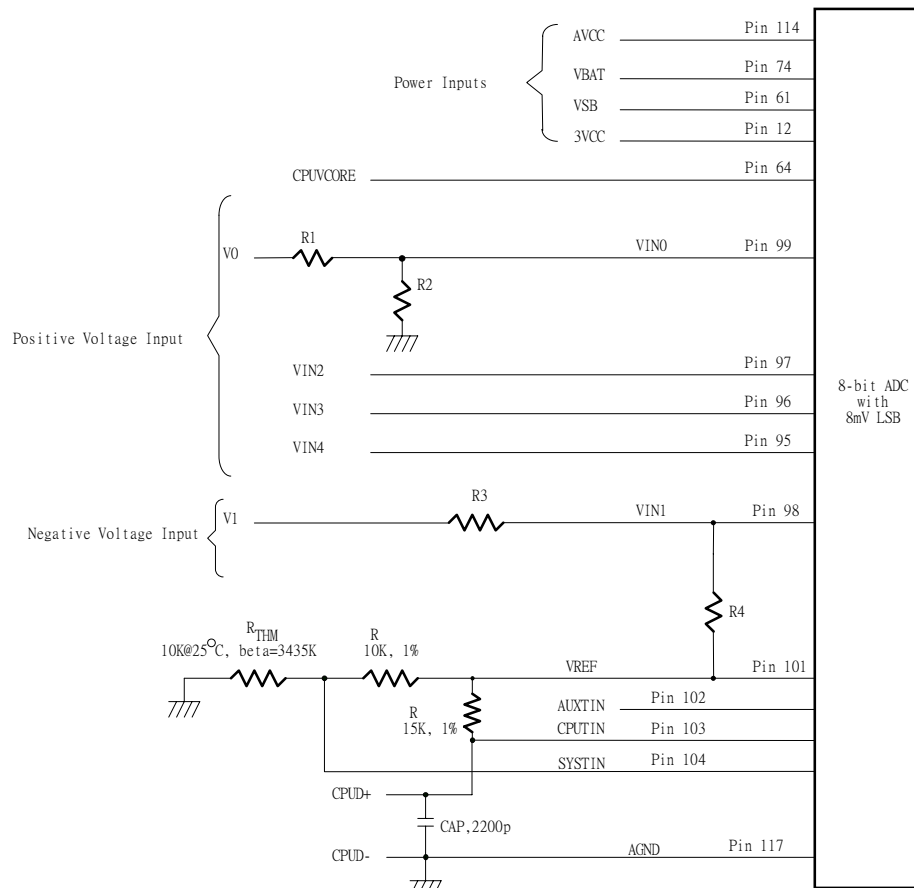

Figure 6.2
The maximum input voltage of the analog pin is 2.048V because the 8-bit ADC has a 8mV LSB. Really, the application of the PC monitoring would most often be connected to power suppliers. The CPU Vcore voltage, battery (pin 74), 3VSB (pin 61), 3VCC (pin 12), AVCC (pin 114) voltage can directly connected to these analog inputs. The +12V voltage inputs should be reduced a factor with external resistors so as to obtain the input range. As Figure 6.2 shows.
The W83627EHF can connect three thermistors to measure three different environment temperature. The specification of thermistor should be considered to (1) β value is 3435K, (2) resistor value is 10K ohms at 25°C. In the Figure 6.2, the themistor is connected by a serial resistor with 10K Ohms, then connect to VREF (pin 101).